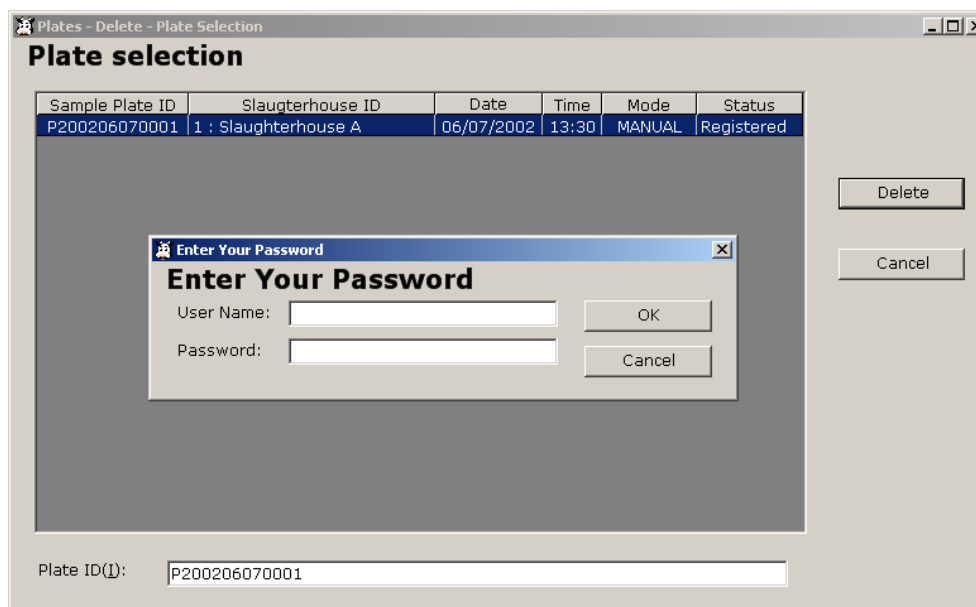

Fig. 5.3-3 : Password entry
- (3) Only operator with Manager level is authorized to delete a plate. Enter your user name and corresponding password (Fig. 5.3-3).